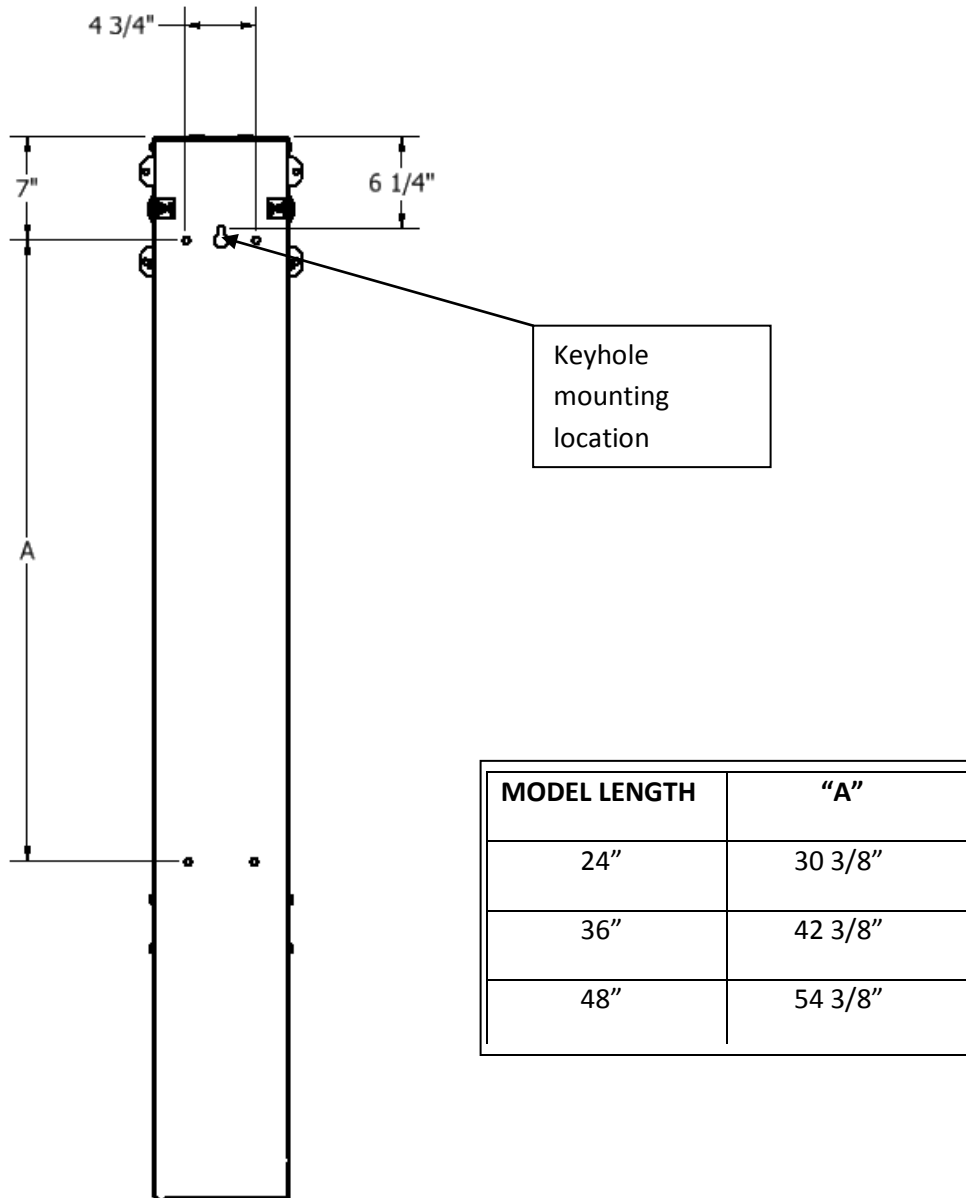

Figure 1
1. The HS583 Curtain/Vent machine is equipped with a key hole slot for easy installation as well as (6) locations to secure unit to a wall.
2. Install **(1) 3/8" X 3"** Lag bolt (supplied) in the wall of the building in the desired location leaving bolt out approximately 1/4". Lag bolt location to be center line of the machine and installed 6 1/4" below the height of the top of the machine. Allow a minimum of 1" clearance above machine from any structure in order to provide adequate clearance for hanging machine on keyhole lag bolt.
3. Hang machine on bolt aligning keyhole slot located near top of the machine. **(Figure 1)**